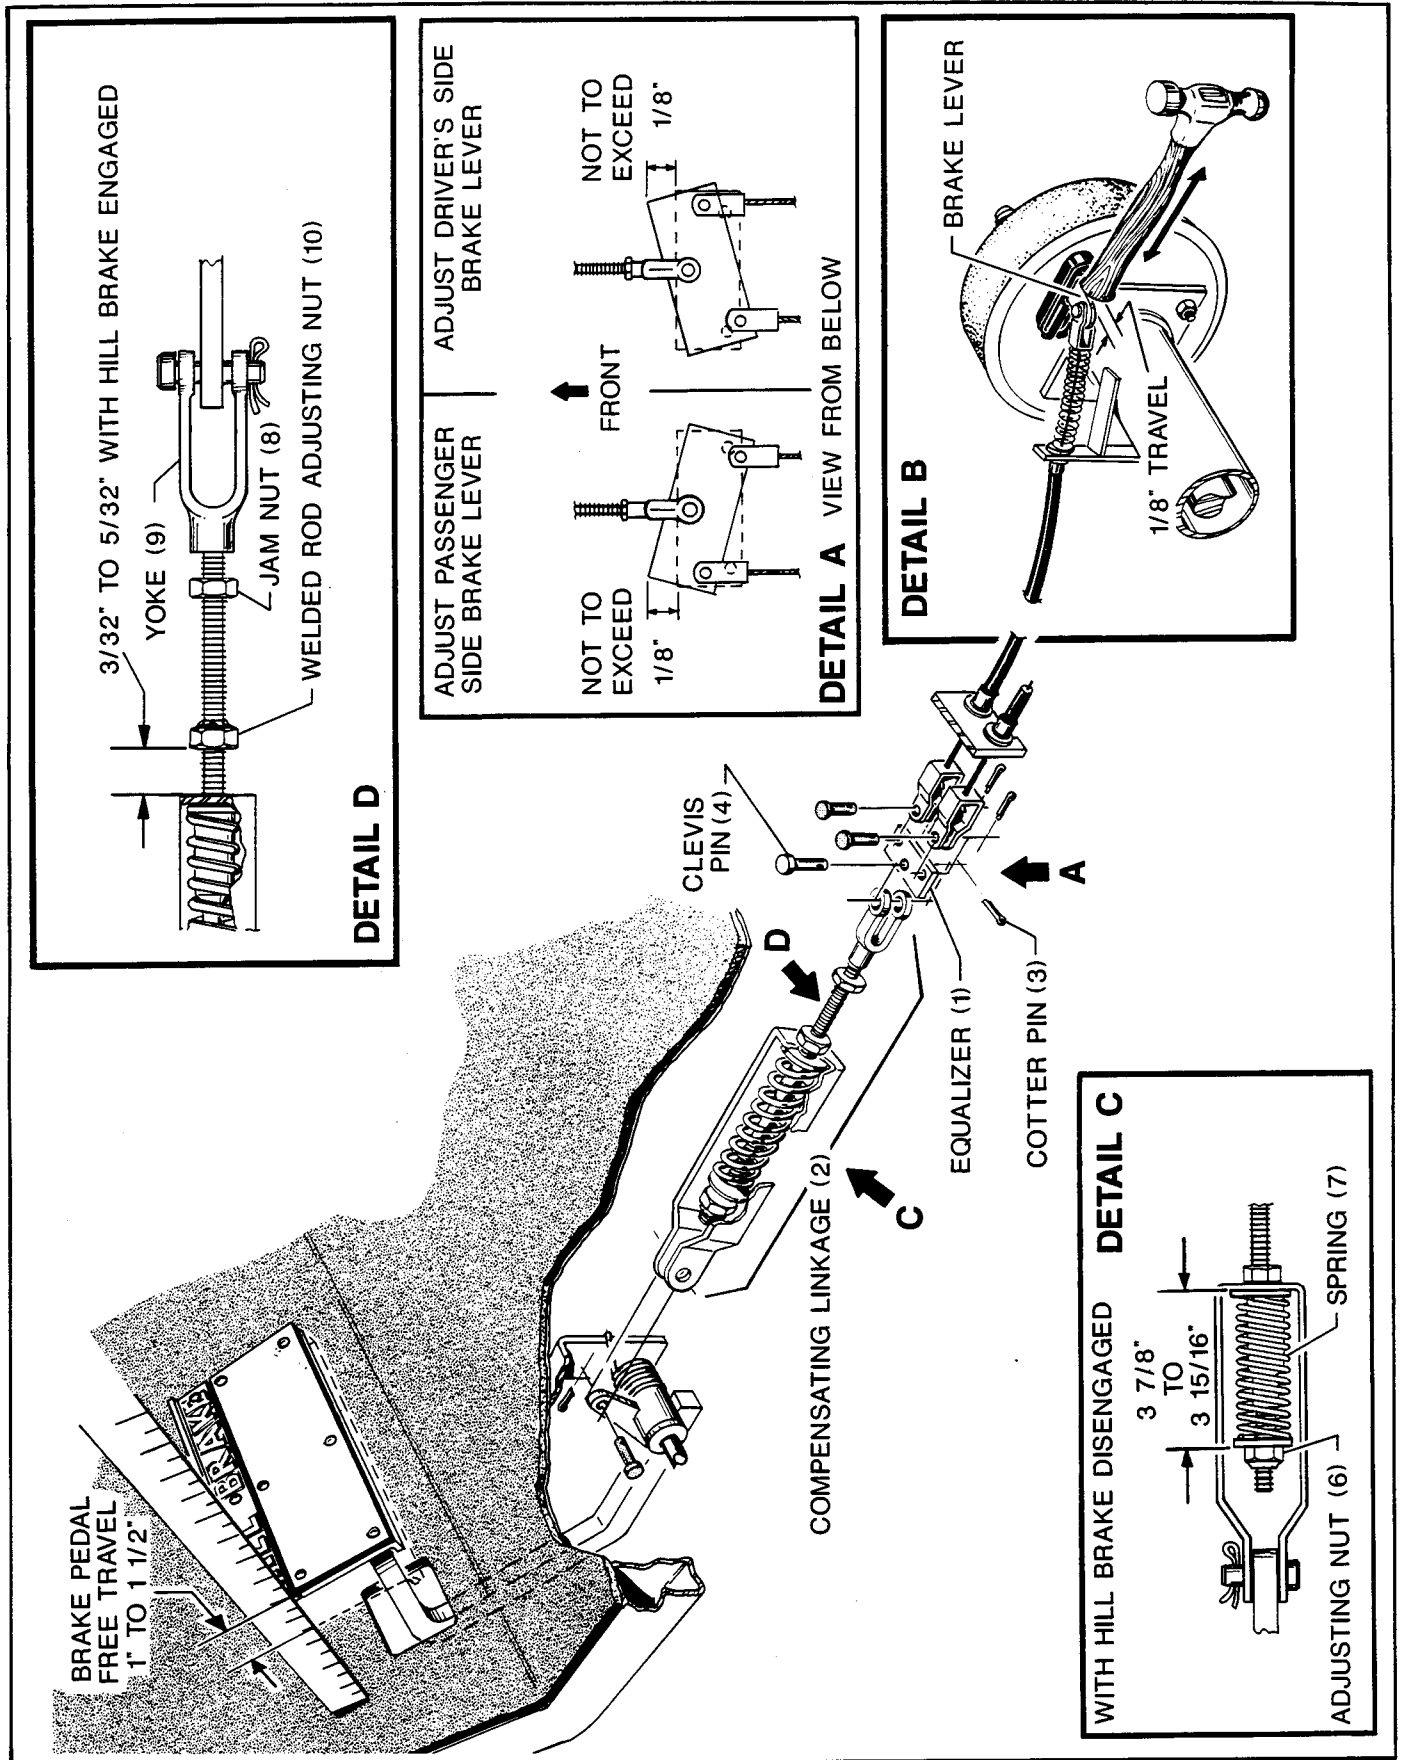

FIG. G-9 BRAKE LINKAGE ADJUSTMENTS
**COMPENSATING BRAKE LINKAGE ADJUSTMENT (Fig. G-9)**